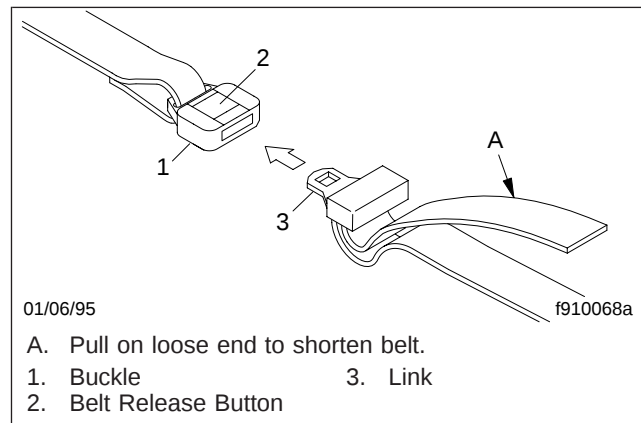

Fig. 2.12, Lap Belt Adjustment
1. Slowly pull the link end of the lap belt across your lap. See Fig. 2.12. If it is necessary to lengthen the belt, tip the link end downward and pull the link until it connects with the buckle.